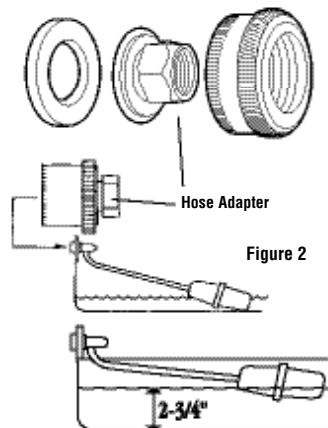

Figure 2
**Installing the float valve and adapter.** Refer to Figure 2 and attach the float to the side leg of the cooler using the hole provided. The garden hose adapter attaches to the brass inlet fitting on the float valve. Verify that the hose washers are properly in place. (Picture 2)